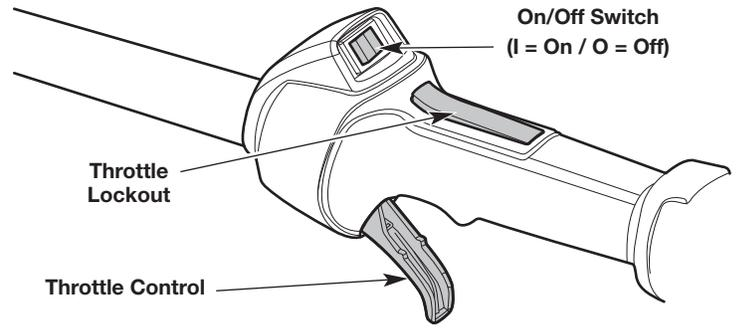
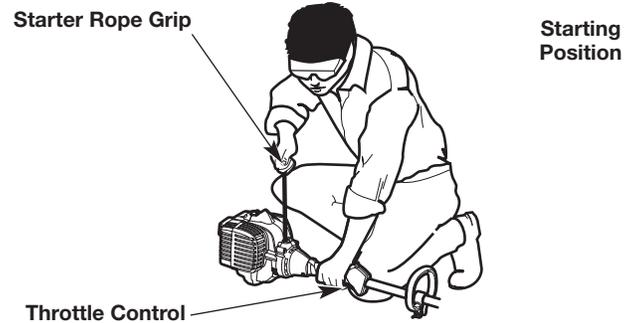

Fig. 7
Fig. 9
WARNING: Avoid accidentally starting the unit. To avoid serious injury, the operator and the unit must be in a stable position when pulling the starter rope (Fig. 9).
NOTE: There is no need to turn the unit on. The On/Off switch is in the **On (I)** position at all times (Fig. 7).
5. Crouch in the starting position (Fig. 9).
NOTE: **PRESS** and **HOLD** the throttle lockout, then **SQUEEZE** and **HOLD** the throttle control for **ALL** further steps (Fig. 7).
6. Press and hold the throttle lockout. Squeeze and hold the throttle control (Fig. 7). Pull the starter rope with a controlled and steady motion **5 times** (Fig. 9).
2. Press and hold the On/Off switch in the **Off (O)** position until the engine comes to a complete stop (Fig. 7).
- NOTE:** There is no need to turn the unit on. The On/Off switch is in the **On (I)** position at all times (Fig. 7).
NOTE: PRESS and HOLD the throttle lockout, then **SQUEEZE and HOLD** the throttle control for **ALL** further steps (Fig. 7).
7. Press and hold the throttle lockout. Squeeze and hold the throttle control (Fig. 7). Run the electric start accessory for 2 seconds.